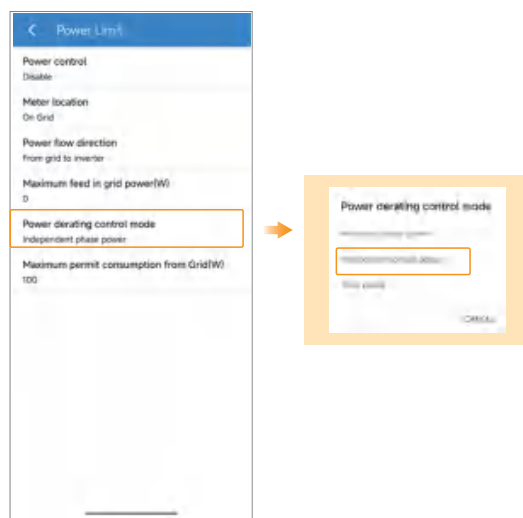

Figure 4-7 Set Power Derating Control Mode
Step 6 Set power derating control mode: Go to **Console > Power Limit > Power derating control mode > Independent phase power**. (Figure 4-7)